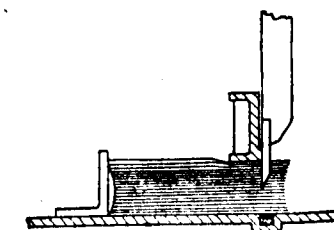

FIG. 5
(4) A blunt knife or too great a bevel angle, may, when cutting thick cardboards, lead to cutting faults whereby the top and bottom sheets are of the same length whilst those in the middle of the pile, having been pulled off the backgauge are shorter (FIG. 5). This fault can be corrected by regrinding the knife.